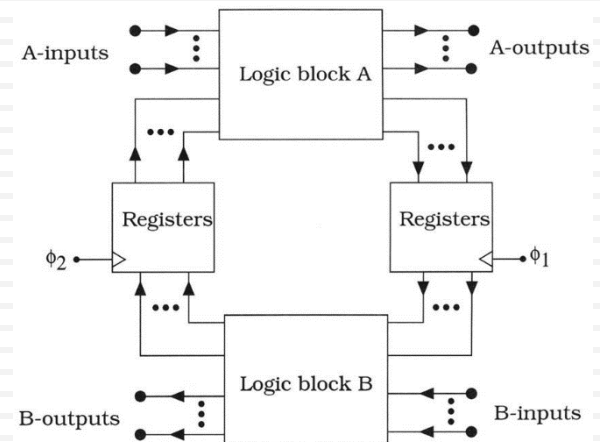

Figure 15.19 A dual-clock finite-state machine design
- Finite-state machines that are based on dual-clock schemes can provide powerful interactive capabilities (Fig. 15.19)